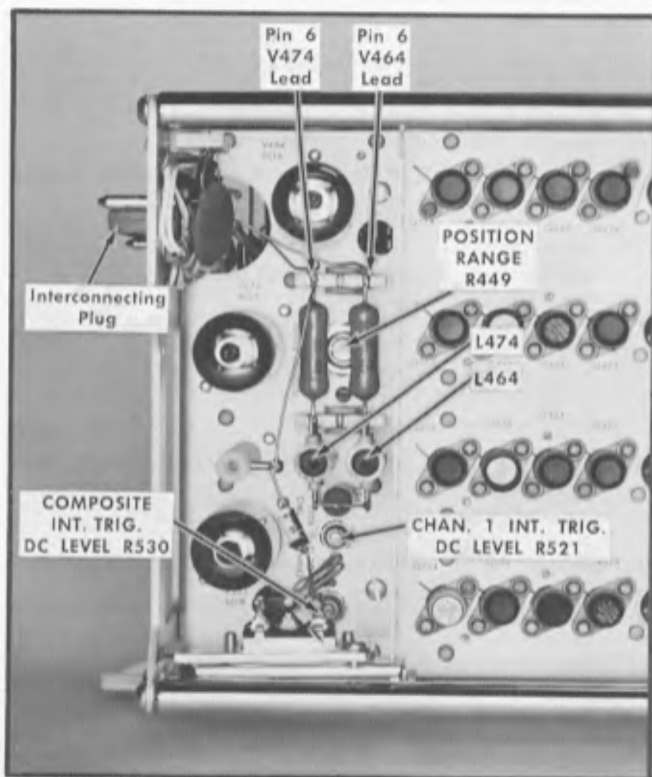

Fig. 6-2. Left side view, rear portion of the Type 3A74, showing location of test points, adjustments, and interconnecting plug.
- Using a small screwdriver, short the plates (pin 6) of V464 and V474 together. Fig. 6-2 shows the location of the pin 6 leads.
- With all the Type 3A74 POSITION controls set to midrange and the MODE switches set to NORM., adjust the POSITION RANGE R449 control (see Fig. 6-2) to center all the traces as a group at the crt electrical center.
- Connect the probe from the test oscilloscope to pin 6 lead of V464 (see Fig. 6-2).
- Connect the probe from the test oscilloscope to pin 6 lead of V474 (see Fig. 6-2) and check that the calibrator waveform displayed on the test oscilloscope is 40 volts peak-to-peak, within a tolerance of 2 volts.